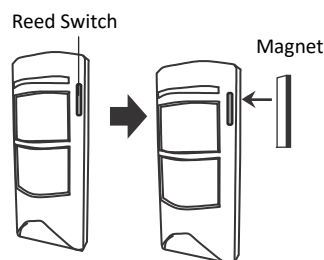

Fig. 8
- B) Within 30 seconds, activate the PIR to transmit RF ID by placing a magnet closely to the reed sensor of the PIR, refer to Fig. 8. If you hear 3 short beeps soon later then enrolling succeeds, otherwise you will hear one long beep after 30 seconds that means enrolling fails, you have to repeat enrolling action.
1. Refer to Fig. 8 for the reed switch location on PIR PC board and place a magnet (you can use the one supplied with Door Sensor) closely to the reed switch, until the LED turns ON→OFF→ON, this takes about 3 or 4 seconds, and then remove the magnet. Afterward the PIR would enter “TEST” mode for 3 minutes.
It's a must to make sure the RF communication with LS-30 base unit is OK after installation. Refer to Fig. 8 and place a magnet closely to the PIR reed switch to activate RF transmission, check if the base unit can receive the radio signal. Also check the RSSI on the LCD of the base unit to assure RF link is secure. You can use a repeater to extend radio range when needed.